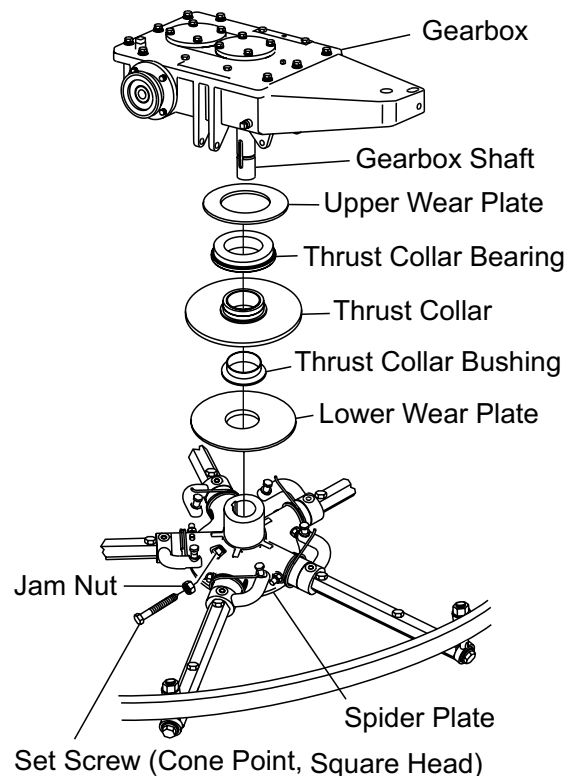

Figure 37. Spider/Gearbox Removal
1. Locate the cone point square head set screw (Figure 37) and attached jam nut found on the side of the spider assembly.